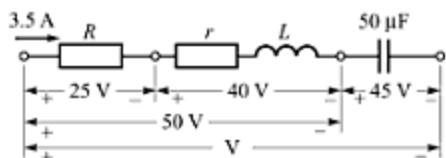

Fig. C-83
- C-137.** In the series circuit shown in Fig. C-83, the voltage and the current are as indicated. Find the values of  $R$ ,  $r$ ,  $L$  and the frequency of the applied voltage and its magnitude.